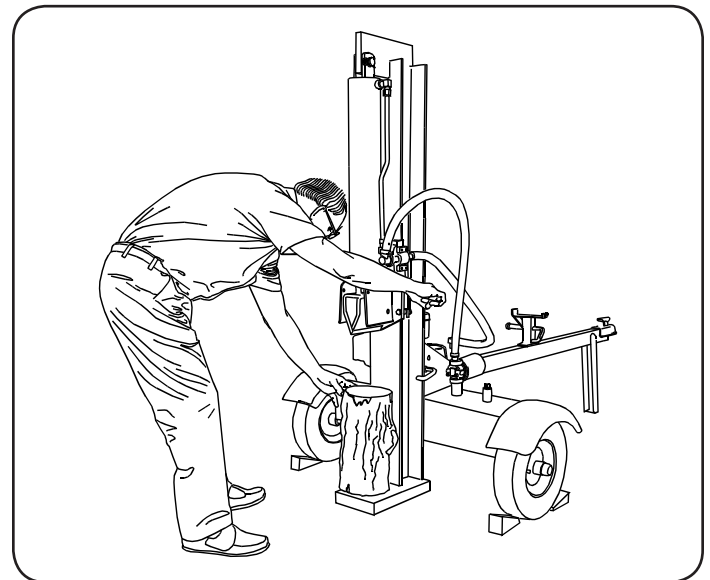

Figure 4-3
3. Stand in front of the log splitter to operate the control handle and to stabilize the log. See Figure 4-3.